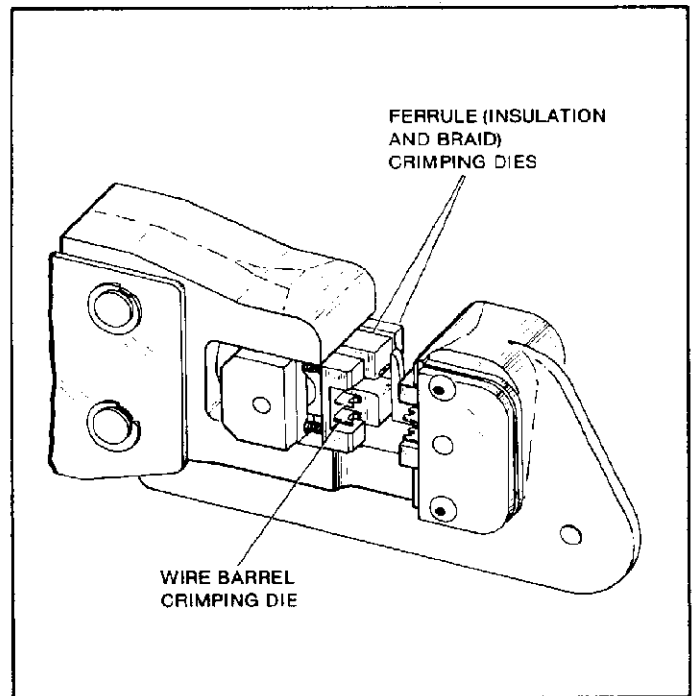

Figure 2
- (b) Die assemblies have three sets of crimping dies—one for inner wire barrels of contacts, one for braid section of ferrule and another for outer insulation section of ferrule. See Figure 2. All three crimps are made at the same time.